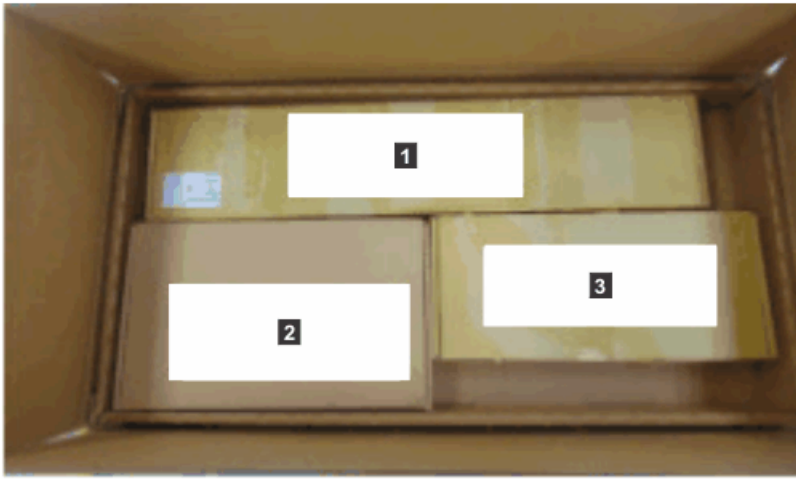

Figure 12. Tray containing expansion enclosure parts
The Model 092 expansion enclosure and most parts are shipped together in one large box. A tray on the top of the enclosure contains the front fascia (1U and 4U pieces), the cable management arm (CMA), and the slide rail kit; you must install these parts. Figure 12 on page 40 shows how the enclosure is packaged for shipment.
6. Remove the support rail kit from the box in which it was shipped (**1**, as shown in Figure 12 on page 40).
17. Remove the cable management arm assembly from its packaging (**2** in Figure 12 on page 40).